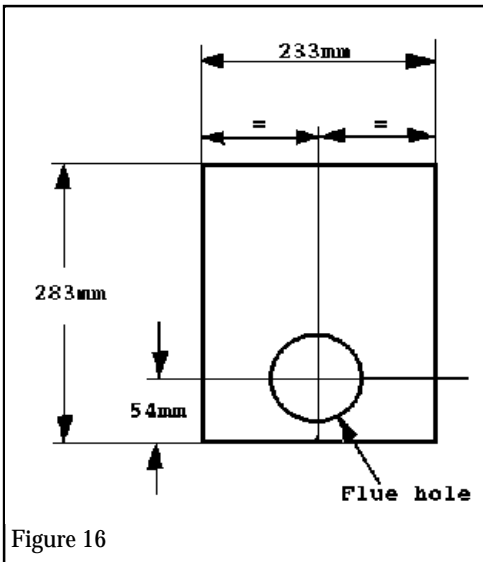

Figure 16
6.13 If it is intended to recess the fan box into the outer wall, make a rectangular opening as shown in figure 16. The depth of the recess is 145mm leaving the 50mm minimum projection required outside the wall.